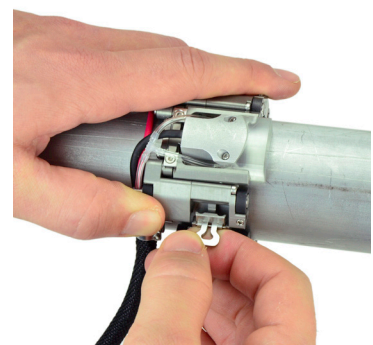

Figure 49
- Allow latch to 'click' into place in the tightest notch possible (Figure 49). Ensure that proper probe contact is made with scanning surface. If probe contact is not adequate, see *Section 2.3. Dual Probe Scanner Setup* to re-adjust scanner assembly.